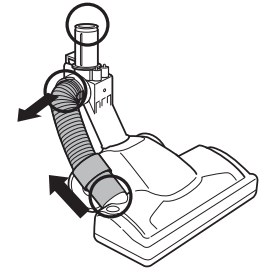

Fig. 30
- Detach the hose from the motorized floor nozzle. Pull the bottom of the hose out of the connector, and release the top of the hose by squeezing the tabs together. Check the hose and the openings for blockages. **(Fig. 30)**